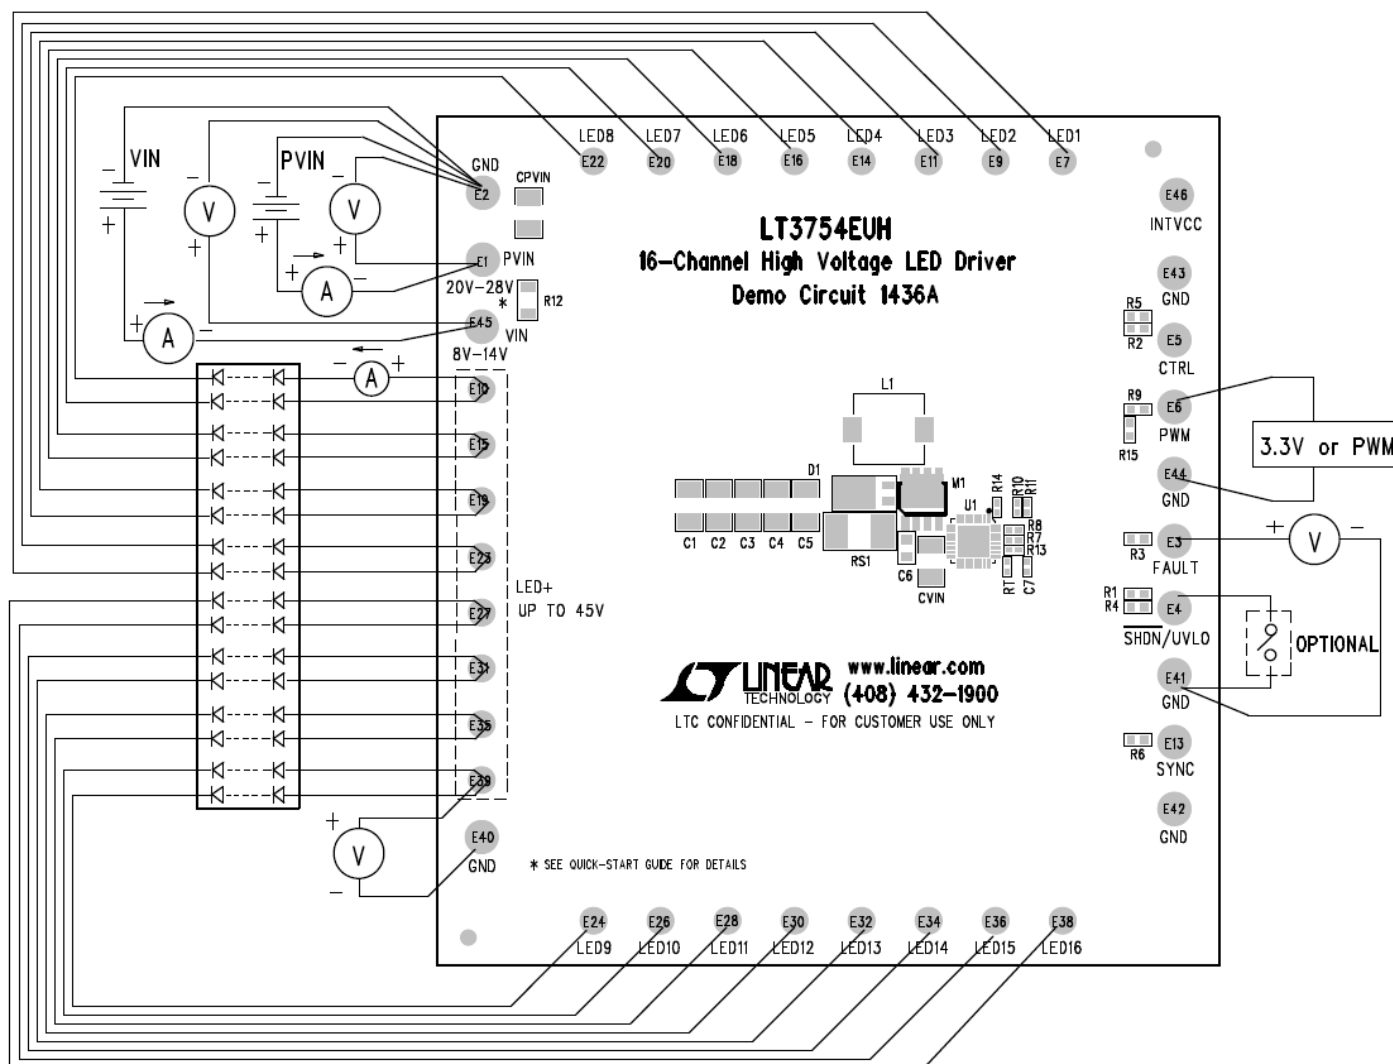

Figure 1. Proper Measurement Setup Drawing
1. Connect strings of LEDs with forward voltage less than 45V, but greater than the PVIN voltage, to the LED+ and LED1-16 terminals on the PCB as shown in Figure 1. Tie any unused LED1-16 pins directly to VOUT (LED+) to disable that channel.